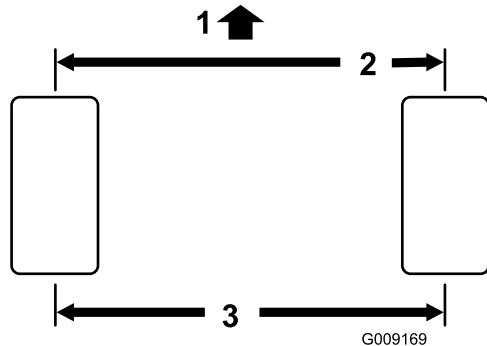

Figure 50
2. Measure the center-to-center distance (at axle height) at the front and rear of the steering tires (Figure 50). The measurement must be within  $0 \pm 0.12$  inch ( $0 \pm 3$  mm) at the front of the tire then at the rear of the tire. Rotate the tire 90 degrees and recheck the measurement.